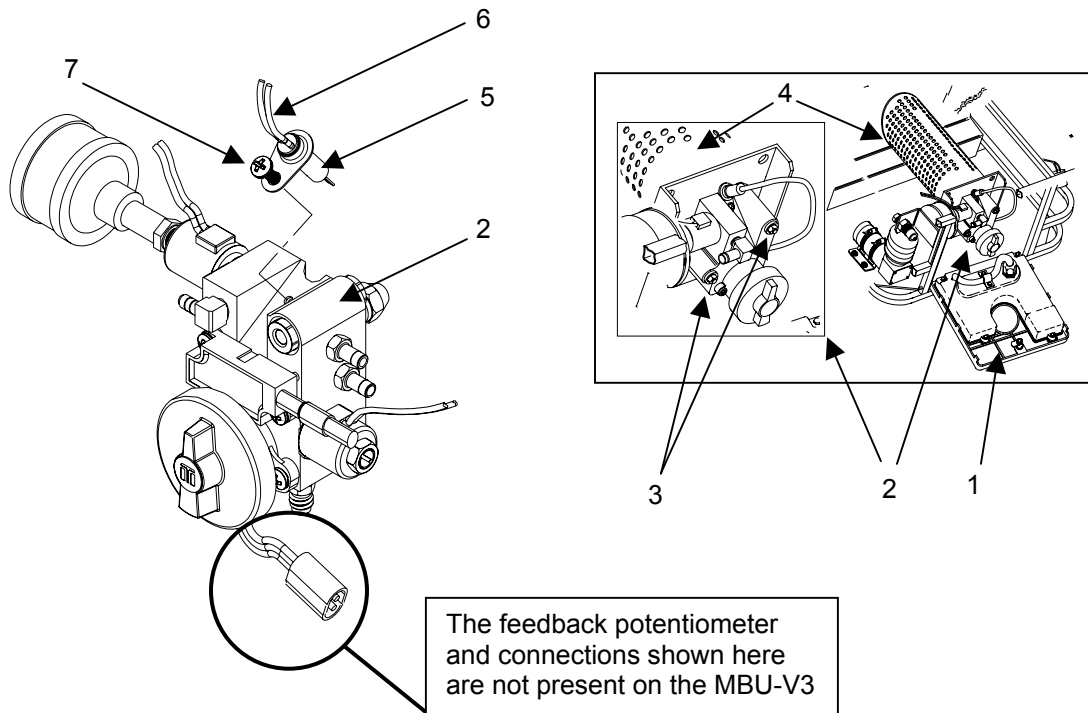

Figure 1. Replace the Ignitor Assembly
5. Remove ignitor retainer screw (**figure 1, item 7**) and remove ignitor (**figure 1, item 5**) and bracket from the fuel delivery block (**figure 1, item 2**). Note routing of ignitor cable.
8. Install new ignitor assembly (**figure 1, item 5**), and tighten the retainer screw (**figure 1, item 7**).
9. Connect the ignitor power lead into light blue connector (**figure 1, item 6**). Route ignitor cable as previously noted.
10. Move fuel delivery block (**figure 1, item 2**) into position and replace and tighten two hex nuts and washers (**figure 1, item 3**) while holding the block against the burner tube assembly (**figure 1, item 4**).
11. Close control panel (**figure 1, item 1**), and secure.